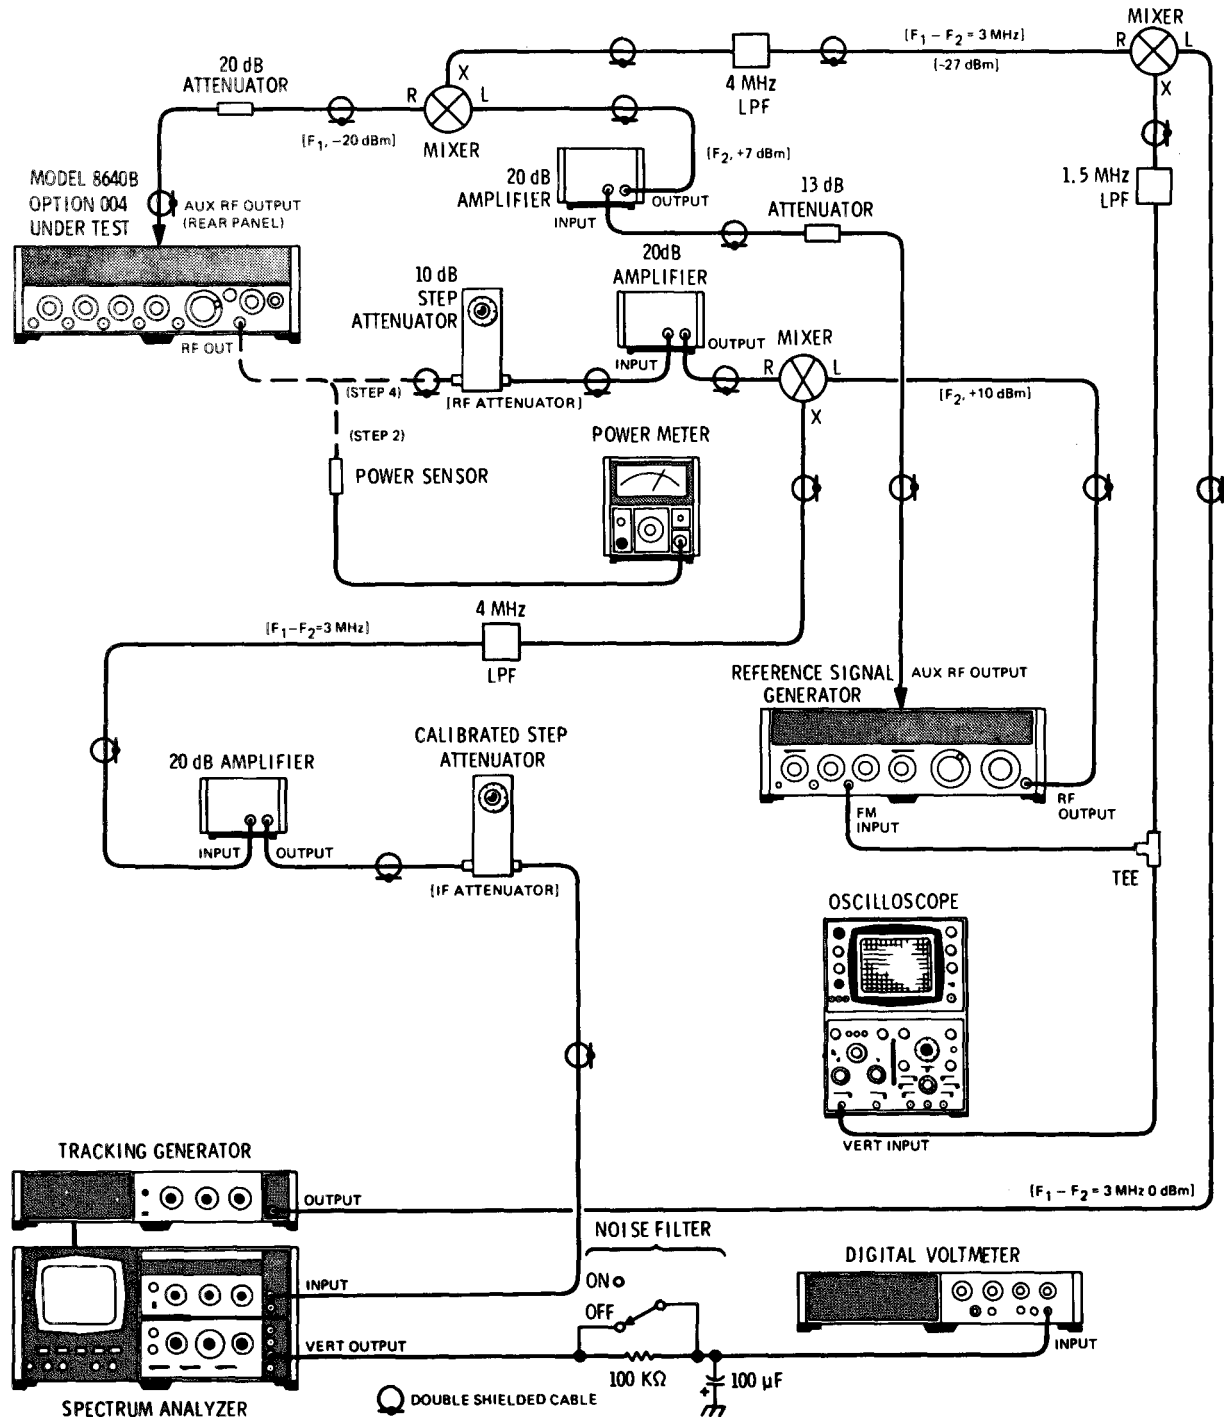

Figure 4-11. Output Level Accuracy Test Setup (Complete)
4. Disconnect power meter and sensor from generator. Connect test generator's RF OUT to the step attenuator as shown in Figure 4-11. Do not change any of the test generator's control settings (particularly the OUTPUT LEVEL vernier).